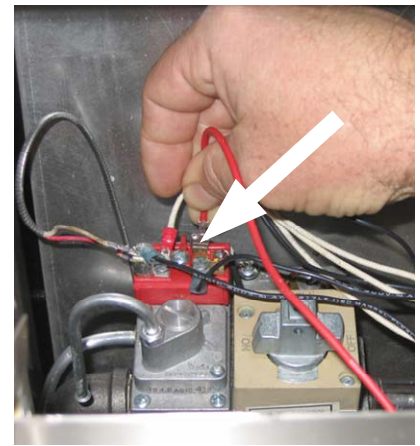

Figure 2: Attach the red wire to the gas valve.
2. On the same terminal, attach the red wire coming from the provided inline switch (Figure 2).